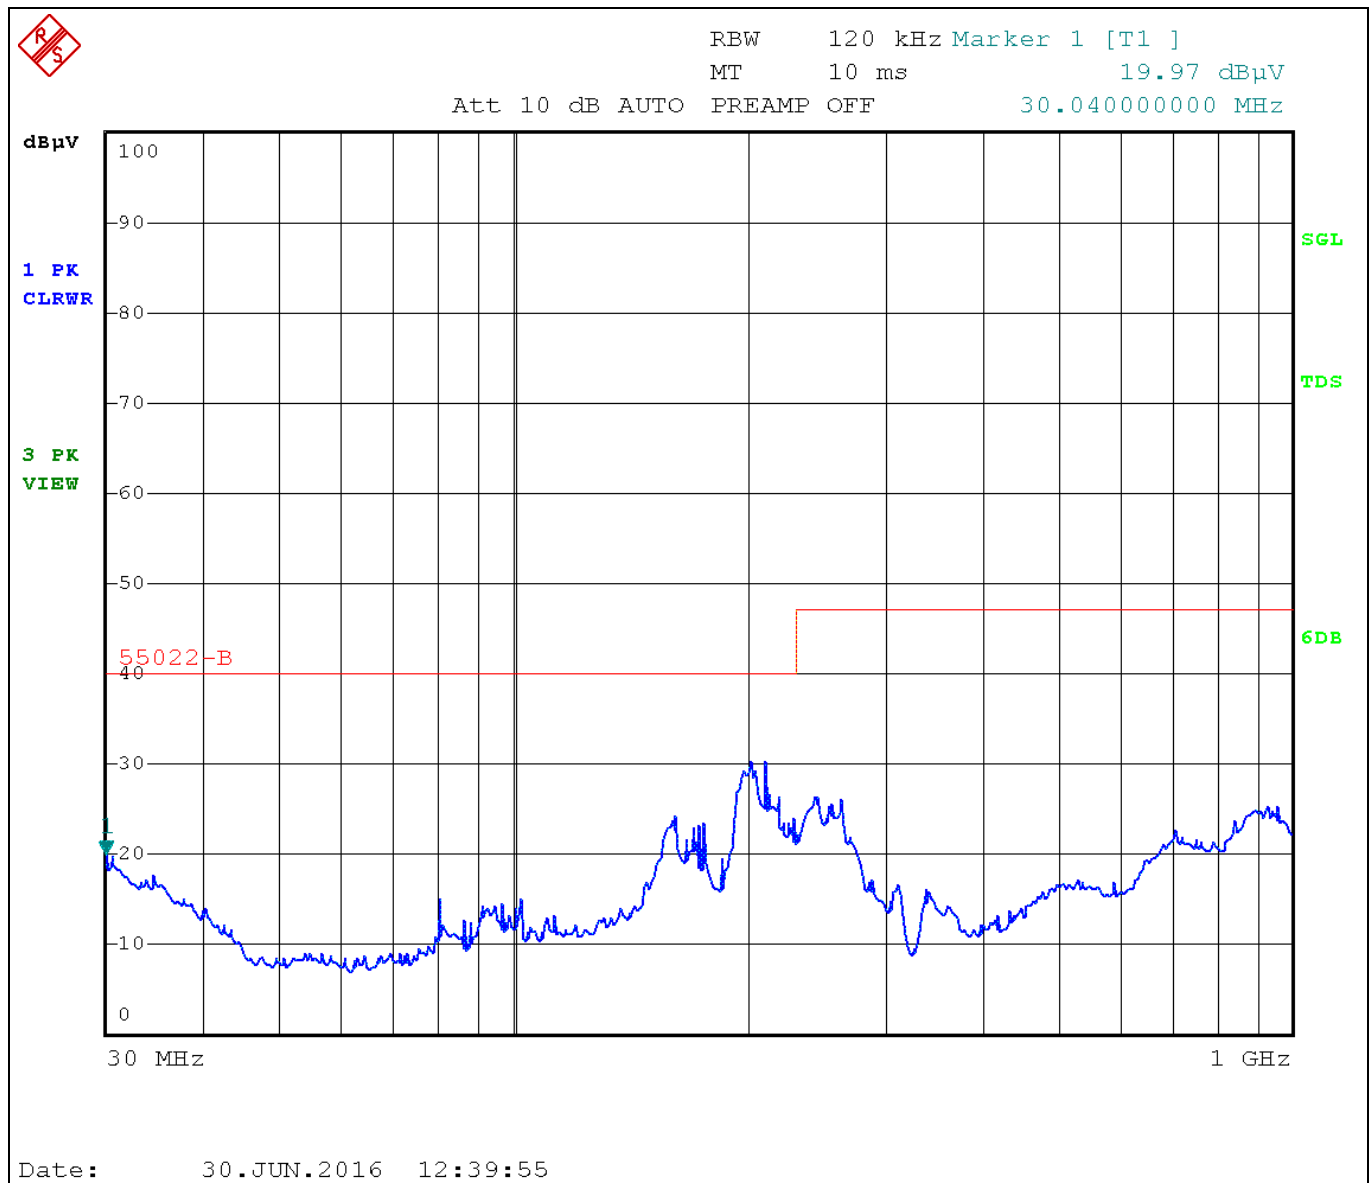

Figure 20 EMI-radiated measurement results. Board positioned perpendicular to the antenna. Antenna position is horizontal.
- Board was positioned perpendicular to the antenna and the antenna was horizontal (Figure 20)